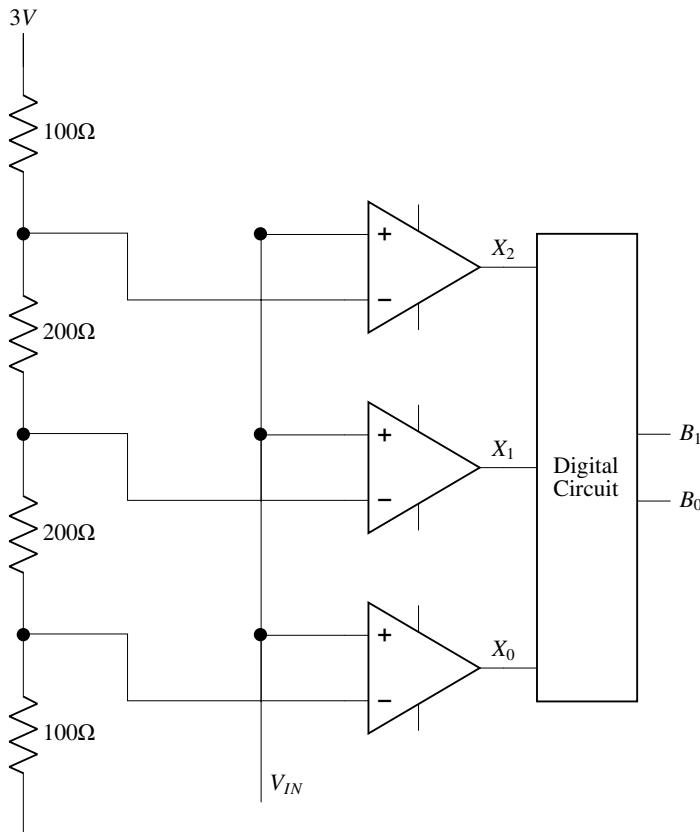

Fig. 3.34
52. A 2-bit flash Analog to Digital Converter (ADC) is given in Fig. 3.34. The input is  $0 \leq V_{IN} \leq 3$  Volts. The expression of the LSB of the output  $B_0$  as a boolean function of  $X_2, X_1$ , and  $X_0$  is